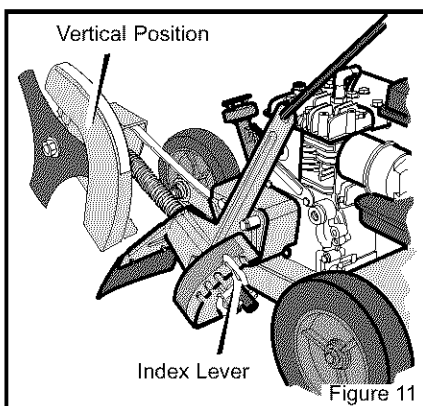
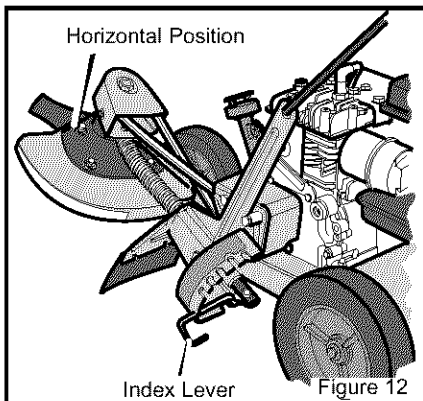

Figure 11
Figure 12
4. Disengage the **index lever** (see Figure 11). Move the **index lever** to the desired position.
5. For edging, set the blade in a vertical position (see Figure 11). For trimming, set the blade in a horizontal position (see Figure 12).